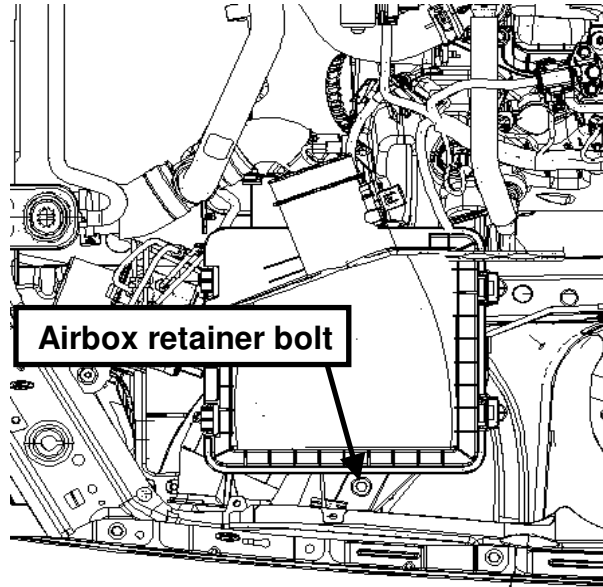

Fig. 2
STEP 5: Remove the airbox retainer bolt and airbox from vehicle (See Fig. 2).